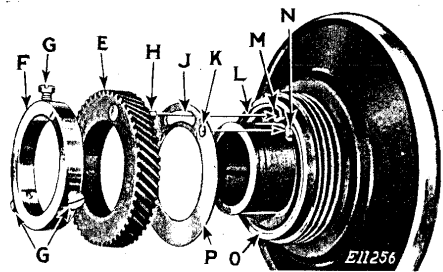

FIG. 17. BALANCE WHEEL DISASSEMBLED
Remove balance wheel in accordance with above instructions. Loosen the three set screws (G, Fig. 17) and remove balance wheel gear collar (F, Fig. 17) from the balance wheel hub. Then lift off the textolite gear (E, Fig. 17). Take off the spring retaining washer (P, Fig. 17). The shock-absorbing spring (O, Fig. 17) can then be removed from the recessed seat on the shoulder of the balance wheel hub. There are three pins in this recessed seat. The middle pin (N, Fig. 17) is for the right hand loop of spring (O, Fig. 17) as explained on the following page. The duty of the two outer pins is to prevent the two ends of spring (O, Fig. 17) from coming in contact with each other and thus becoming noisy during the functioning of this shock-absorbing spring. Make sure that these three pins are in place in the spring seat.
When replacing these parts, first put the shock-absorbing spring in position, as shown by Fig. 17, with the right hand loop of the
spring about the middle pin (N, Fig. 17). Then place the spring retaining washer (P) so that the round pin hole (K) engages the pin (N) on which is placed the right hand loop of the shock-absorbing spring (O), as indicated by the unlettered arrow leading from pin-hole (K) to pin (N).